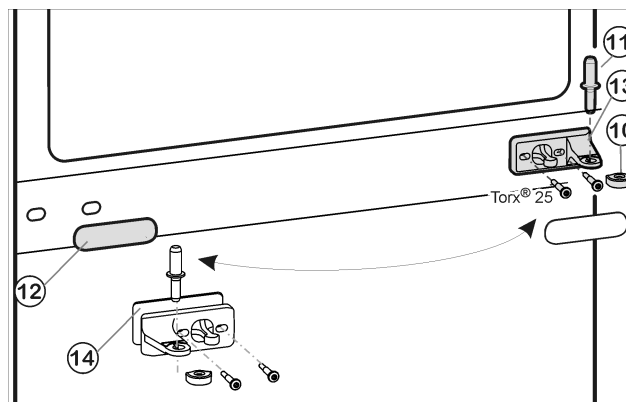
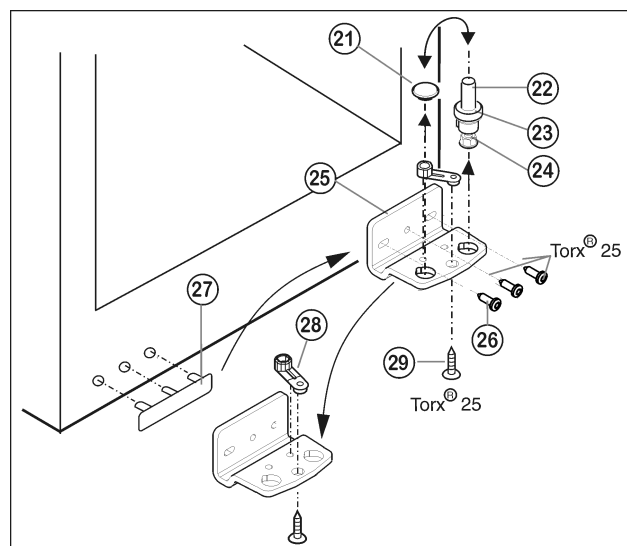

Fig. 5
Fig. 6
- Remove the center bearing pin Fig. 5 (11) from the bearing bracket and the lower door.
- Remove the plastic cap Fig. 5 (10).
- Unscrew the middle bearing bracket Fig. 5 (13) (2 Torx® 25 screws).
- Carefully remove the cover trim Fig. 5 (12).
- Screw the middle bearing bracket Fig. 5 (13) with the supporting plate Fig. 5 (14) turned 180° onto the new hinge side (4 Nm).
- Turn the cover trim Fig. 5 (12) 180° and snap it back into place on the new handle side.
- Unscrew the bearing pin Fig. 6 (22), including the washer Fig. 6 (23) and adjustable foot Fig. 6 (24), all the way and pull it out.
- Remove the plug Fig. 6 (21).
- Unscrew the Fig. 6 (25) bearing bracket Fig. 6 (26).
- Unscrew Fig. 6 (28) the bearing part Fig. 6 (29) and swap it over to the opposite positioning hole; then screw it in place.
- Carefully lift off the cover on the handle side Fig. 6 (27) and move it to the opposite side.
- Using a cordless screwdriver if necessary, secure the bearing bracket Fig. 6 (25) **tightly (to 4 Nm)** on the new hinge side.
- Insert the plug Fig. 6 (21) into the other hole.
- ▶ Insert the bearing pin *Fig. 6 (22)*, including the washer and adjustable foot, all the way. Make sure the detent lobe is pointing toward the back.
- ▶ Position the lower door from above onto the bearing pins below *Fig. 6 (22)*.
- ▶ Place the plastic cap *Fig. 5 (10)* back onto the center bearing bracket *Fig. 5 (13)*.
- ▶ Insert the center bearing pin *Fig. 5 (11)* on the new hinge side through the center bearing bracket *Fig. 5 (13)* into the lower door.
- ▶ Place the upper door onto the center bearing pin *Fig. 5 (11)*.
- ▶ Align the doors flush with the appliance housing, using the two oblong holes in the lower bearing bracket *Fig. 6 (25)* and in the center bearing bracket *Fig. 5 (13)* as a guide, if needed. To do so, unscrew the center screw on the lower bearing bracket *Fig. 6 (25)*.